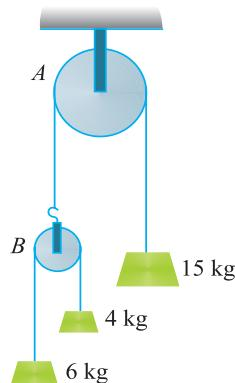

Fig. 25.3.
**Example 25.3.** A system of masses connected by string, passing over pulleys  $A$  and  $B$  is shown in Fig. 25.3 below :